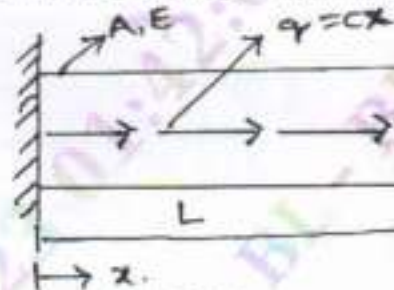

Fig Q2(b)
- A bar of length  $L$ , cross sectional Area  $A$  and modulus of elasticity  $E$ , is subjected to distributed axial load  $q = cx$ , where  $C$  is a constant as shown in Fig Q2(b). Determine the displacement of the bar at the end using Rayleigh - Ritz method.